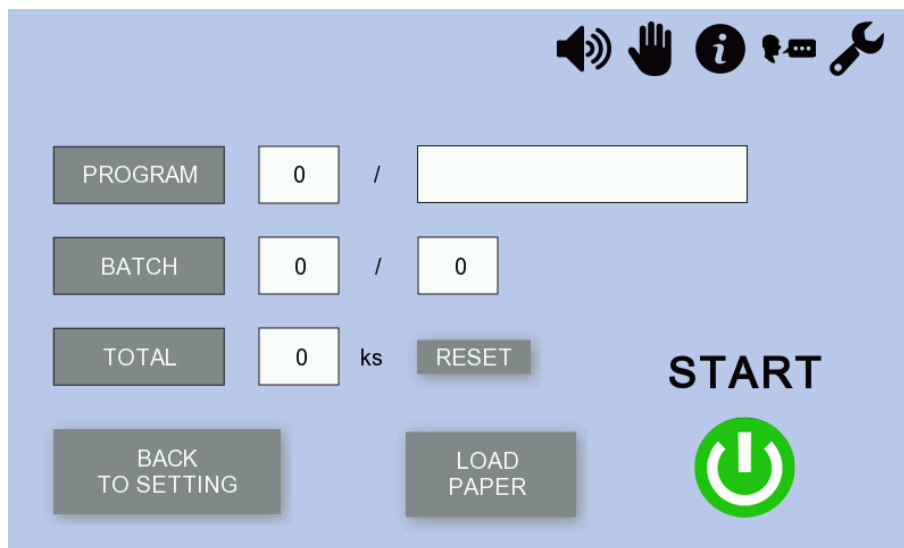

Fig. 25: Working Screen
It is also possible to change the batch straight in the Working Screen (Section 8.9, Fig. 25).
The feeding head starts feeding sheets of paper into the machine. Do not load another pile of paper onto the feeding table until the machine has processed the last paper, which automatically ends the working cycle and the "WORKING CYCLE" screen is displayed (Fig. 25). The working cycle can be interrupted manually by pressing **STOP** . In case of emergency the machine can be switched off with the big red **STOP** button (2) on the left side of the touch screen.